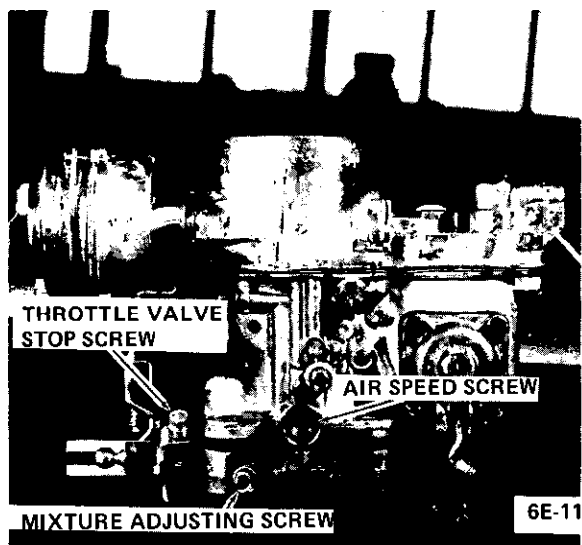

Figure 6E-11 Carburetor Adjusting Screws
2. Remove plastic caps from the idle mixture screw and air speed screw. See Figure 6E-11.